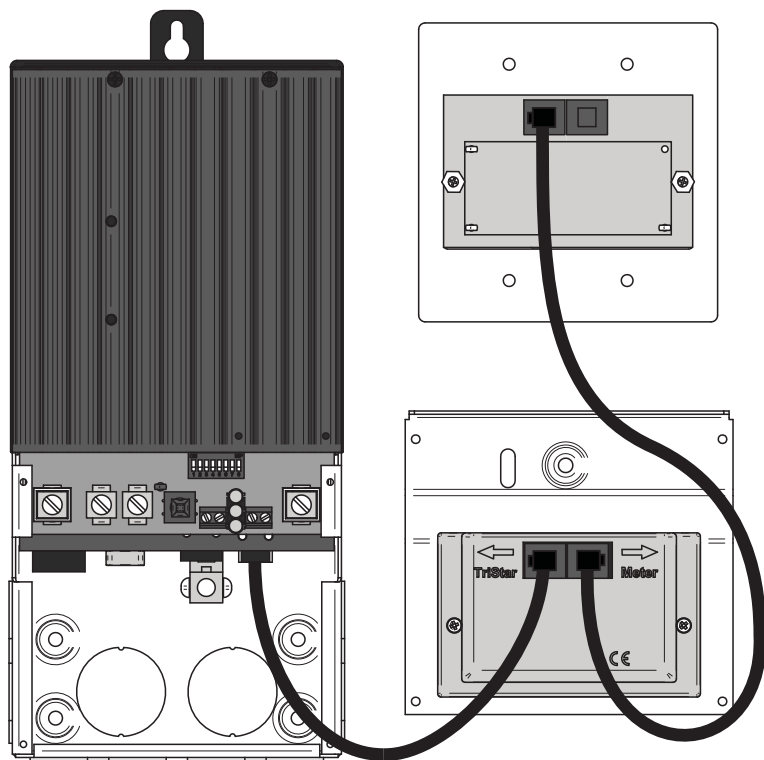

Figure 3-1. TS-M-2 and TS-RM-2 Meter Connections
2. Looking at the back of the remote meter, connect the other end of the cable to the left socket - see Figure 3.1 in Section 3.2.